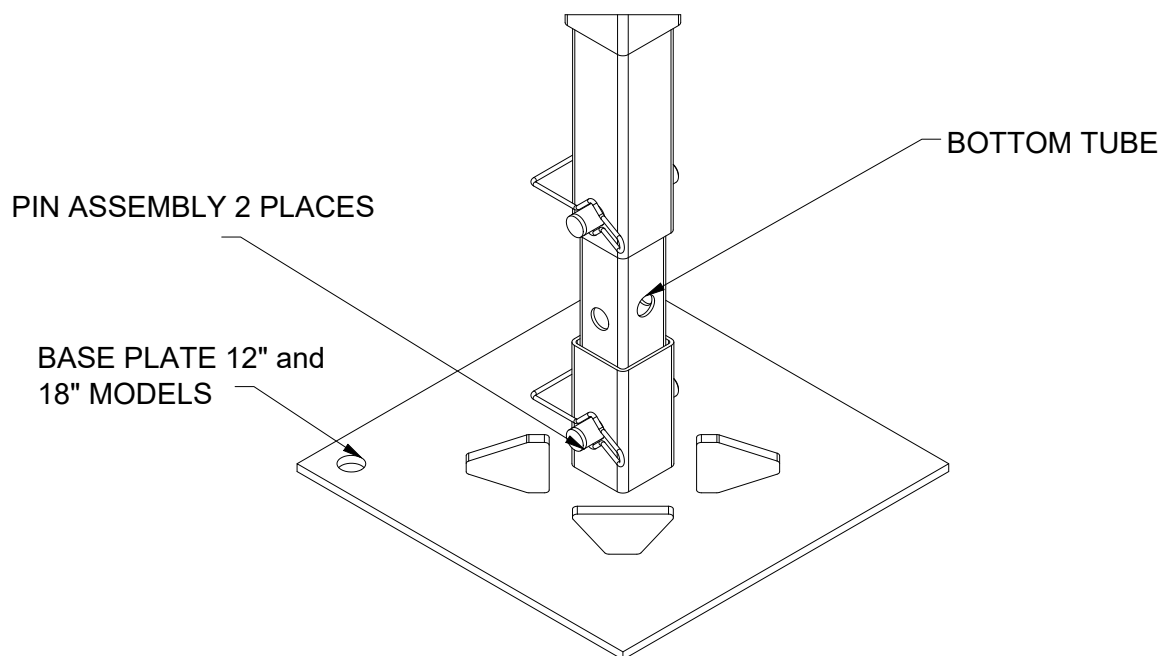

FIGURE 2: Power Adjustable Leg Pin Connections
1. Begin Chassis assembly by having the Assemblers unpack six Power Adjustable Legs. Insert the bottom tube of the leg into the base plate and secure with pin assembly. See Figure 2 on next page and make sure to expose the four lower holes on the bottom tube.